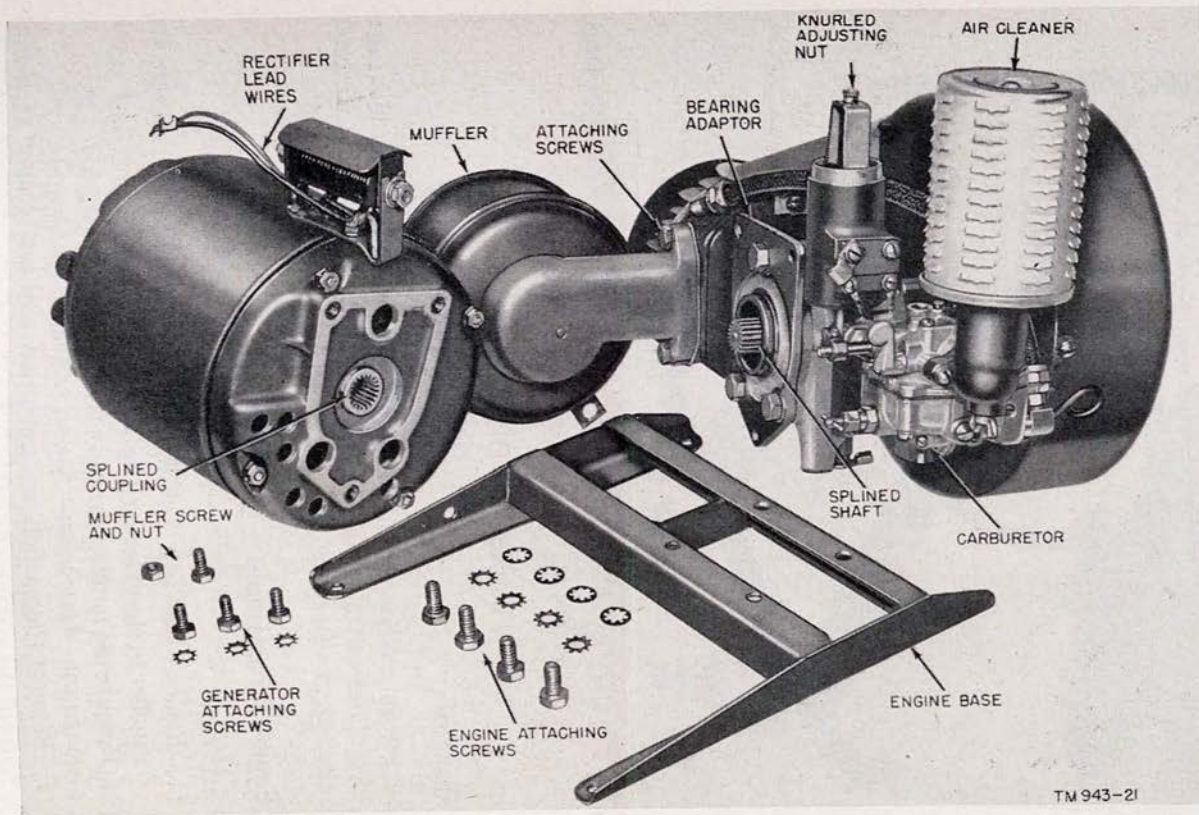

Figure 21. Generator disassembled from engine.
- (3) Remove the engine from its mounting base by taking out the four screws that hold it in place (fig. 21).
- (1) Remove the two screws and lockwashers that attach the muffler to the cylinder (fig. 21).
- (2) Remove the muffler assembly from the engine.
- (1) Remove the carburetor, governor, and air cleaner as a unit from the engine (fig. 21).
- (2) Remove the four screws that hold the carburetor to the crankcase. Lift off the carburetor and governor, and remove the gasket.